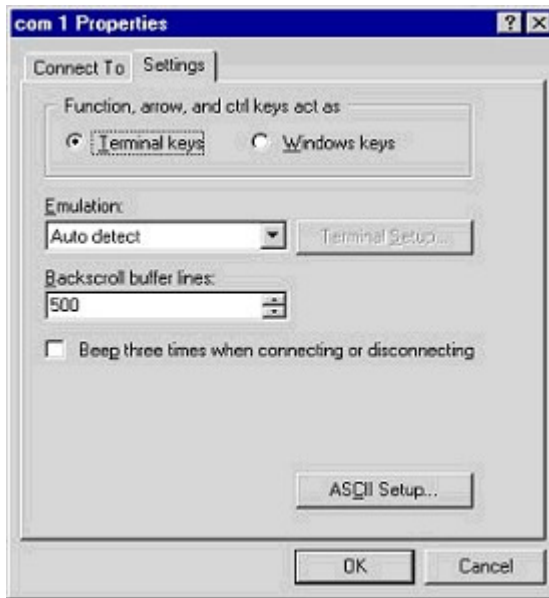

Figure 5. Com Port Settings
8. When Properties window appears (Figure 5), select the Settings tab.